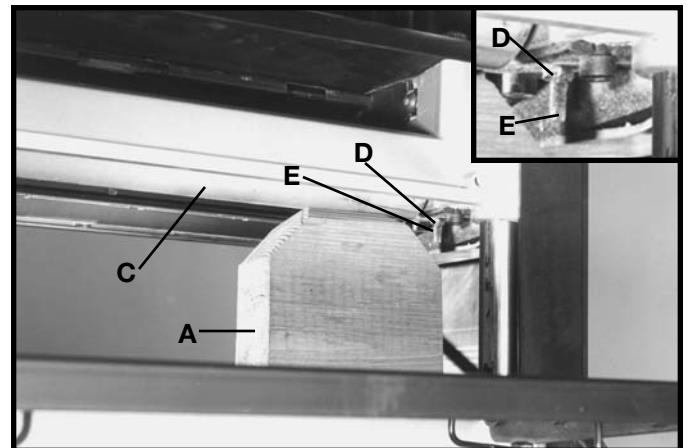

Fig. 35
4. Move the gage block (A) Fig. 35, **minus the feeler gage**, under one end of the outfeed roller (C) as shown. The bottom of the outfeed roller should just touch the top of the gage block.
5. If the height of the outfeed roller must be adjusted, loosen locknut (D) Fig. 35, and turn adjusting screw (E) until outfeed roller just touches the gage block (A). Tighten locknut after adjustment is made.
6. Repeat this adjustment on opposite end of outfeed roller (C) Fig. 35.